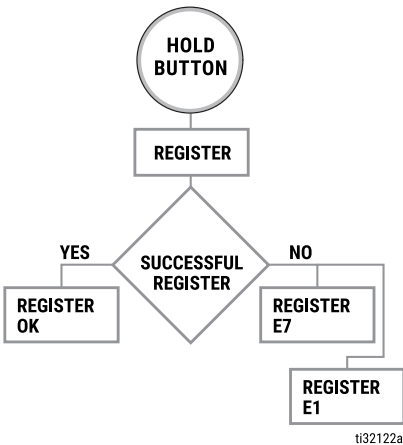

FIG. 3
- 4. REGISTER OK (FIG. 3, page 6) displays when the TLM is registered with the Pulse software. This may take up to 20 seconds.
If the TLM does not register with the Pulse software, the error message REGISTER E7 displays (see FIG. 3).